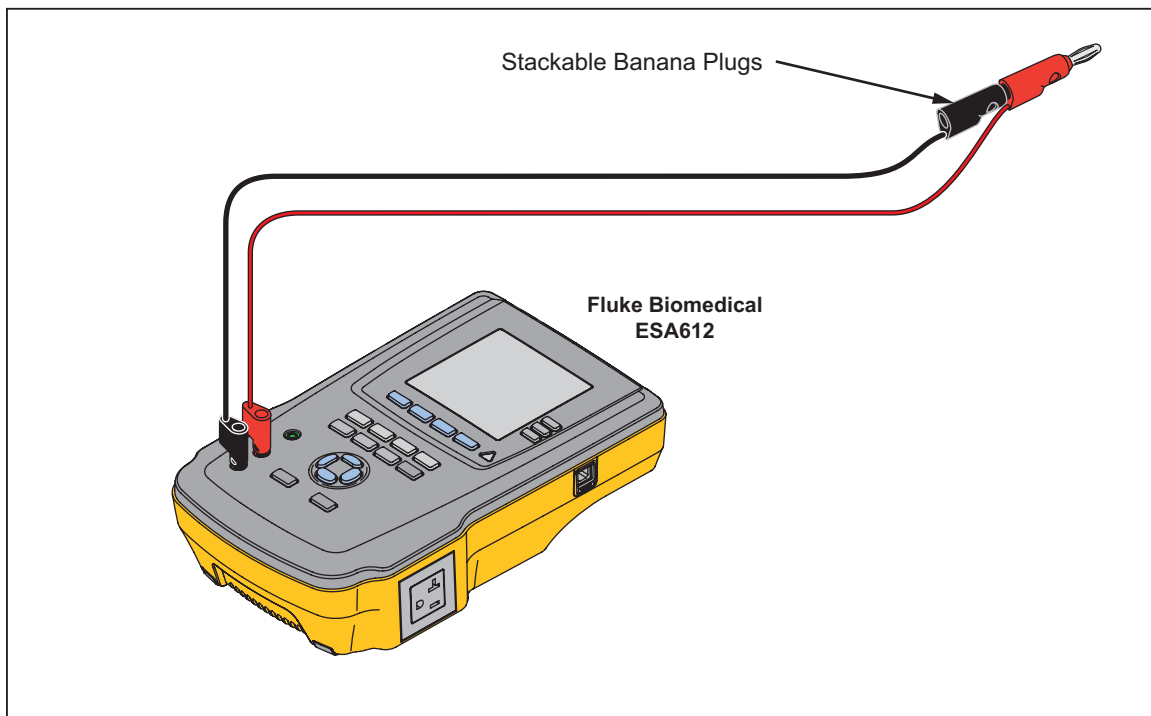

Figure 3-33. Resistance Calibration Connections
1. Connect two leads to the red and black jacks, then short the other ends together as shown in Figure 3-33.